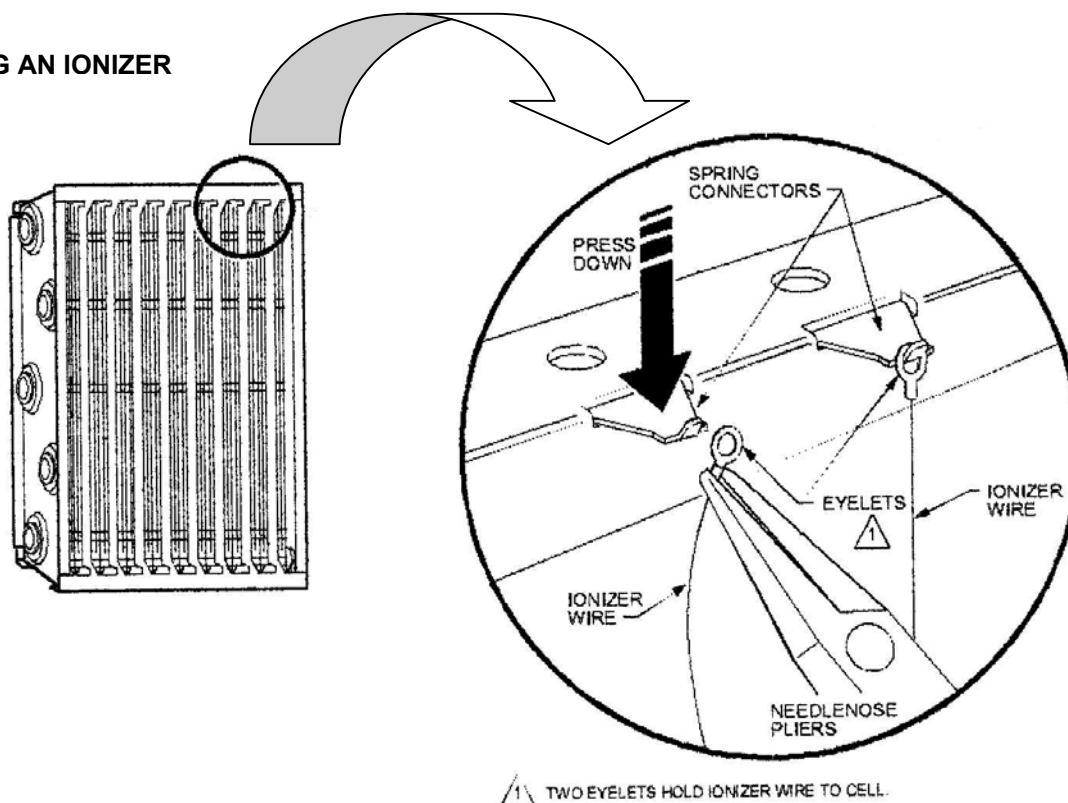

Fig. 14. Install new ionizer wire by hooking eyelets over spring connectors.
1. Hook the eyelet on one end of the wire over the spring connector on one end of the cell. See Fig. 14. Be careful to avoid damaging the spring connector or other parts of the cell.